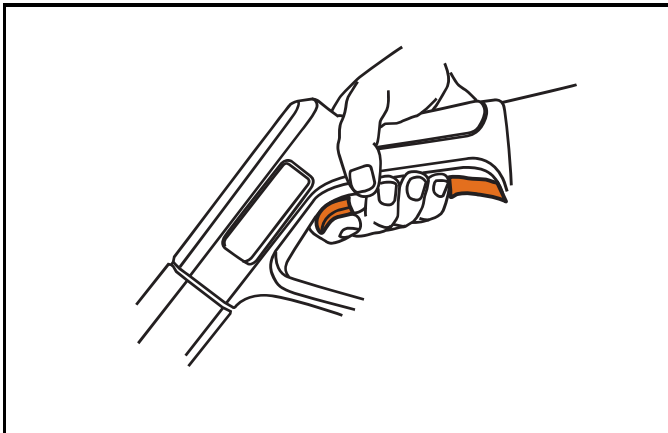

Figure 4-16. Squeeze Trigger
7. Turn ON the water, squeeze the trigger to purge the pump system of air (Figure 4-16).